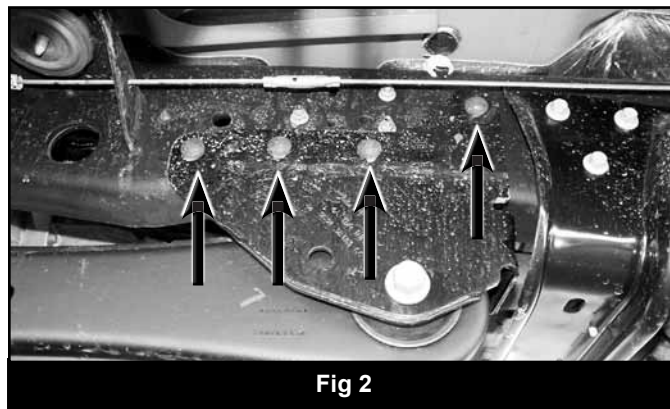

Fig 2
10. Locate the seven rivets that attach the OE radius arm mounting bracket to the frame. There will be four on the outside and three in the inside of the bracket fastening the bracket to the bottom of the frame. (Fig. 2)